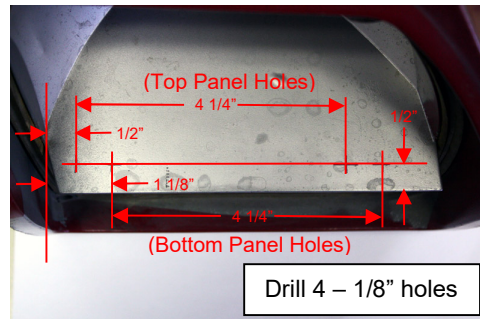

Figure 2
- 4.1. While viewing the housing from the top, you will need to drill 4 - 1/8" diameter holes into the bulkhead flange that separates the two lighting chambers. (Refer to Figure 2) All of the holes will be 1/2" inward from the flange's outer edge. The 4 holes are comprised of 2 sets of holes that are 4 1/4" apart and the sets are offset from each by 5/8". Mark the location of the first hole in the first set 1/2" from the flange's inboard corner where it meets the housing body. The second hole of the first set will be 4 1/8" from this first hole. Mark the location of the first hole in the second set 1 1/8" from the flange's inboard corner where it meets the housing body. The second hole of the second set will be 4 1/8" from this set's first hole. Do this for both housings while mirroring the hole locations.